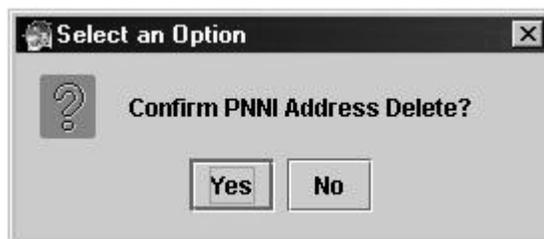

Figure 8-12: Confirm Delete Interior IISP Address Dialog
2. Click **DELETE**. The Select an Option dialog displays. See Figure 8-12.